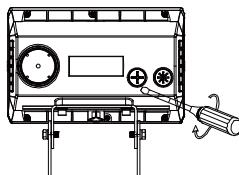

figure 15
- Step 1: Open the metal plug counter clockwise with a screwdriver, then slide the switch up and down to adjust the power controller or CCT controller in your demand (Figure 15).